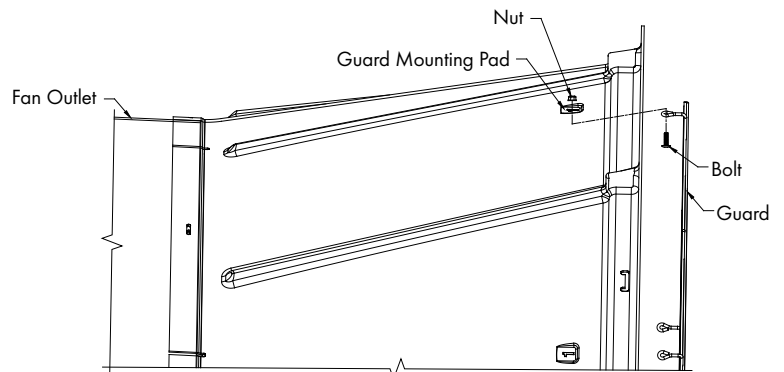

Figure 8A
If installing your existing guard into the new cone, locate the flat guard mounting pads on the cone and drill a  $\frac{1}{32}$ " dia. hole in the center of each pad. Then insert existing guard into cone with the guard eyelets facing away from you. Line up each eyelet with a hole in the guard pads. Secure guard to cone using (8) existing Bolts and Nuts. See Figure 8A and 8B. Tighten all nuts at this time.